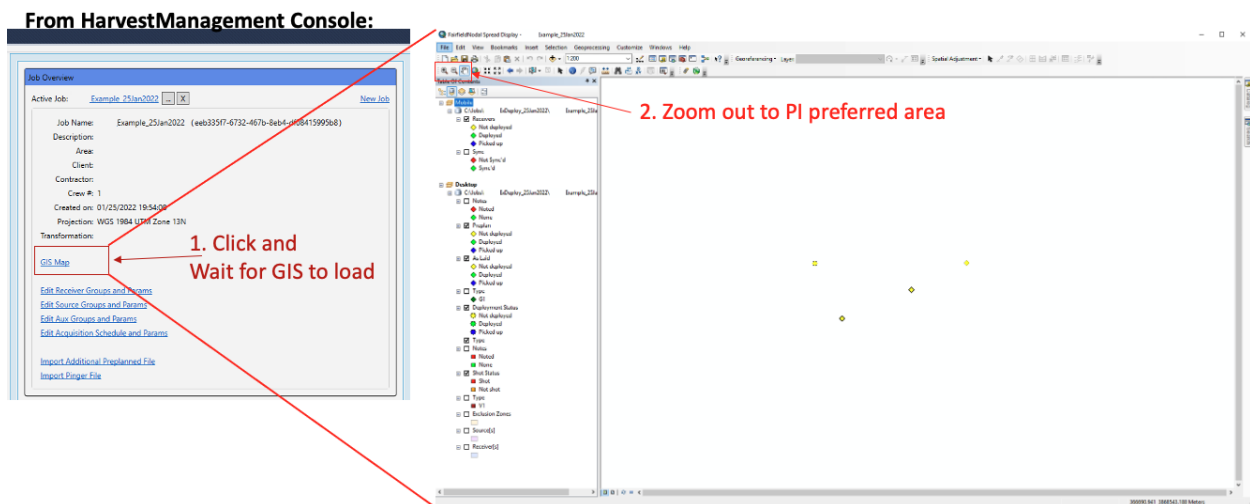

Figure 2-15 How to access the GIS map and where to zoom and pan from the generated ArcGIS interface.
From the *System Dashboard* in *Job Overview* select ‘GIS Map,’ as shown in Fig 2-15.
Make sure that you are zoomed out to the range (see zoom and pan tools in right-side of Fig 2-15) preferred by the PI to ensure the field crew can add stations if needed. Stations can only be added if located within the preset area seen in the GIS map.
3. Open the ArcGIS map that was just created, if not already open (see Figure 2-15).
Be certain that the area is zoomed out (see zoom and pan tools in right-side of Fig 2-15) as preferred by the PI so the field deployment crew can add stations if needed. Stations can only be added if located within the preset area seen in the GIS map.